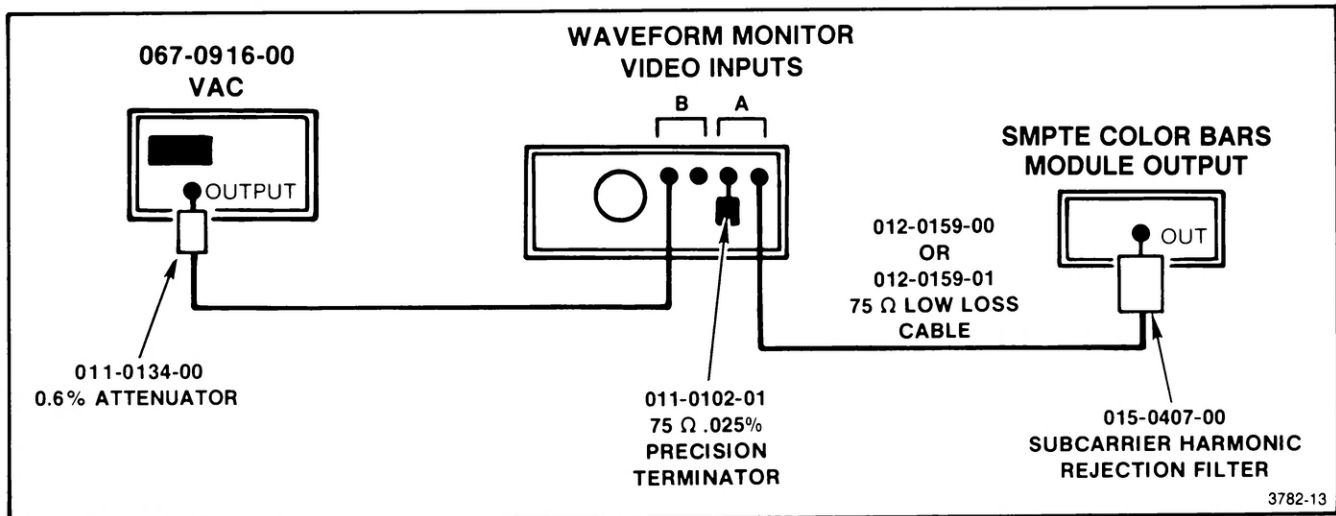

Fig. 2-8. Video Amplitude Calibrator connections for making chrominance amplitude measurements.
- Connect the VAC as shown in Fig. 2-8.
- Connect the TSG7 Color Bars Module Output, through the Subcarrier Harmonic Rejection Filter, to the 1480 Ch A Video Input. Terminate the other Ch A Video Input with the Precision Terminator (see Fig. 2-8).